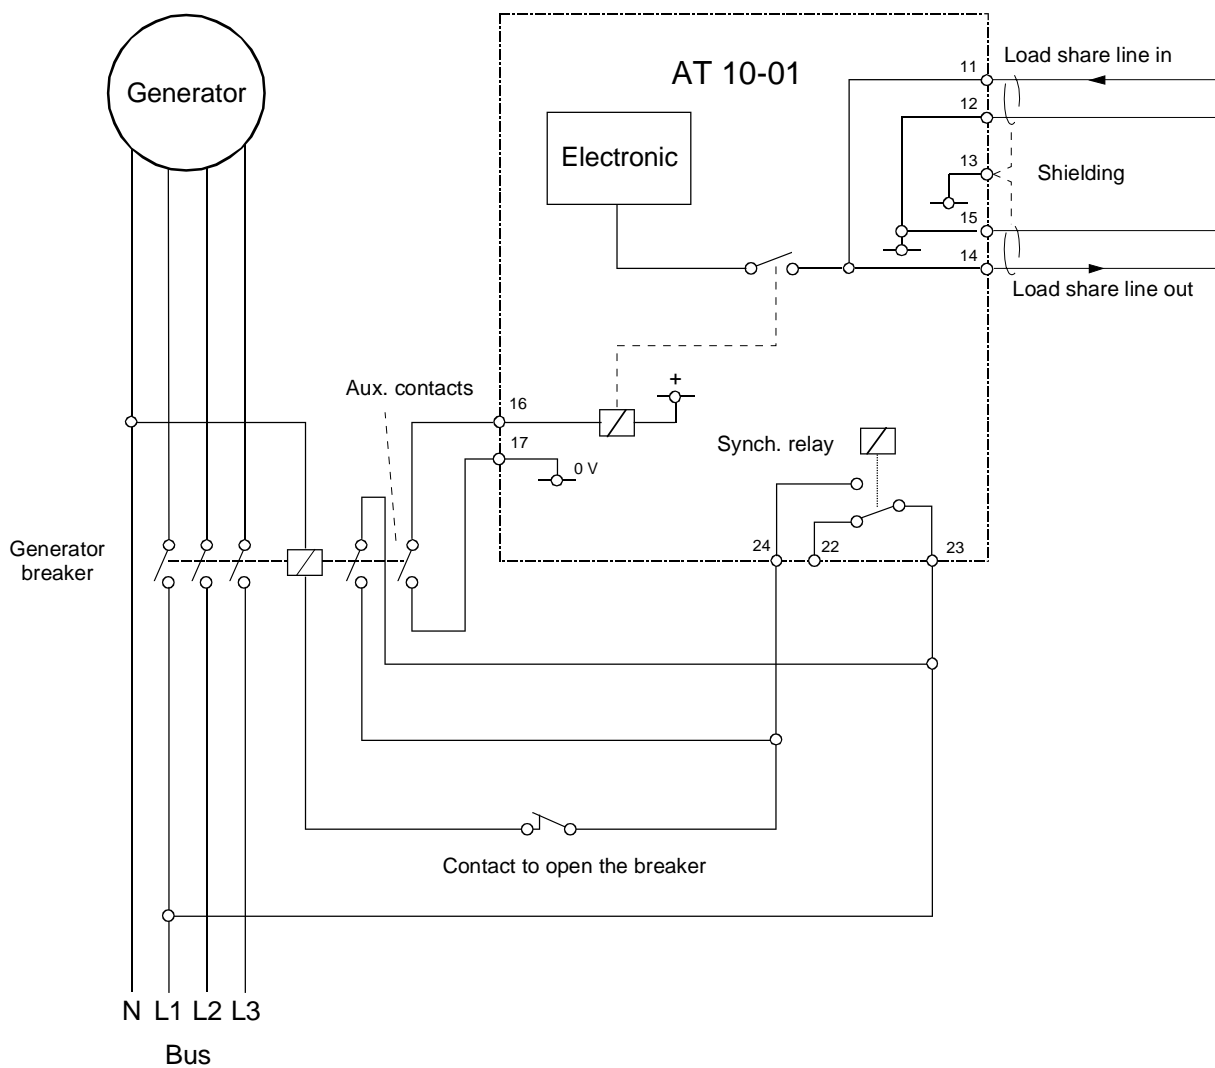

Figure 3: Auxiliary Contacts from Generator Breaker
- 8.2.3.** For activating load sharing, the potential free auxiliary contact of the generator breaker must be connected in accordance with Figure 3.